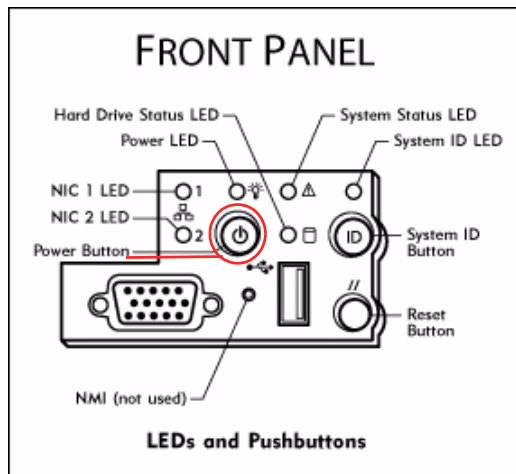

FIGURE 5-26 Power Button and Front Panel Detail
4. **Press the Power button (FIGURE 5-26) on the front panel (behind the faceplate).**